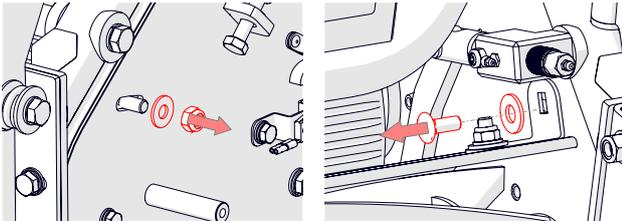
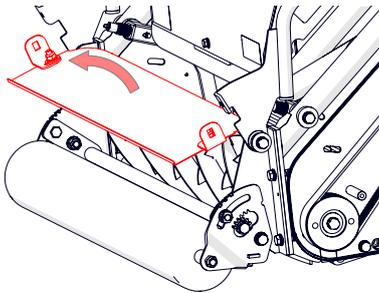

Fig.12C - Remove the deflector plate bolts
Fig.12D - Slide the deflector plate out
4. Remove the 2 x M10 nuts from each side of the machine securing the deflector plate [17 mm spanner] (Fig. 12C). Remove the two bolts and slide the deflector out from the top (Fig. 12D).